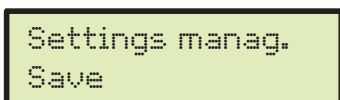

Fig. 79
- Select Save (Fig. 79) and press **OK**;